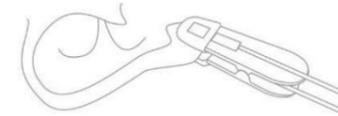

Figure 5 Ear Clip SpO₂ Sensor
5. For Ear Clip SpO₂ Sensor, clip the sensor on the patient's earlobe, as shown in Figure 5.